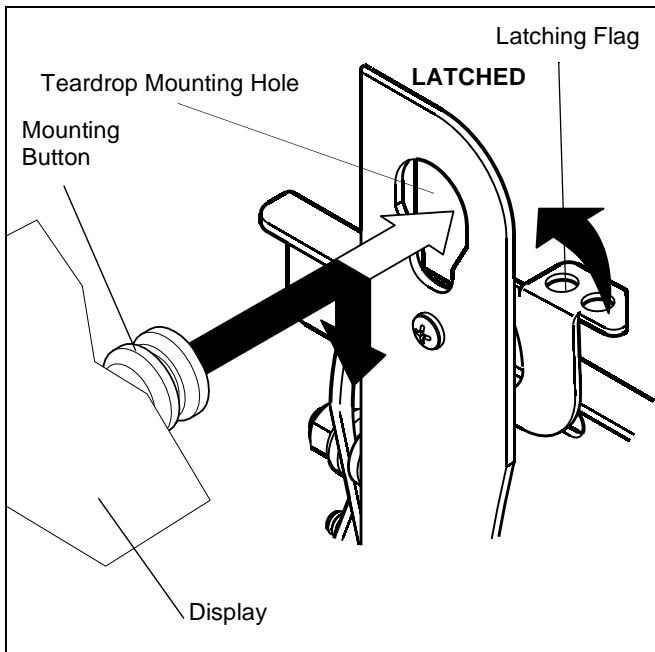

Figure 4
5. Move latching flag to the "LATCHED" position to secure display to mounting bracket. (See Figure 4)